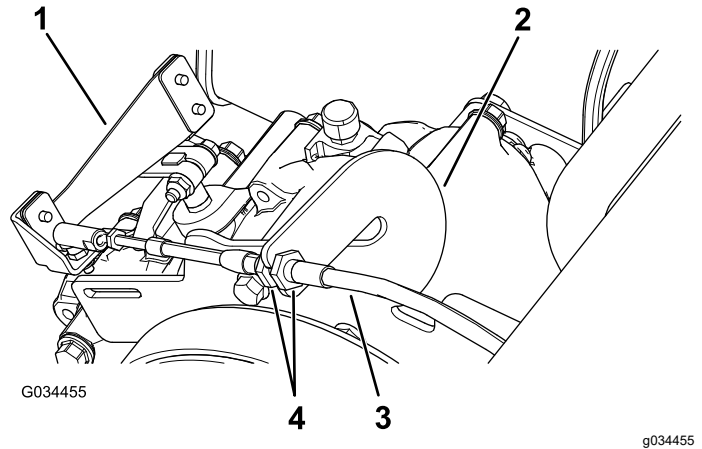

Figure 57
1. Pull the gear-shift cable out of the slot in the spanner bar (Figure 57).
2. Loosen the jam nuts on the gear-shift cable and adjust them as necessary (Figure 57).
3. Test the gear-shift position by rotating the gear-shift selector to the 3 different positions and check to see if the shift lever (Figure 57) shifts properly when shifting the gears; refer to Gear-Shift Lever and Gear-Shift Indicator (page 16).
4. When you have reached the desired adjustment, install the gear-shift cable into the slot in the spanner bar (Figure 57).